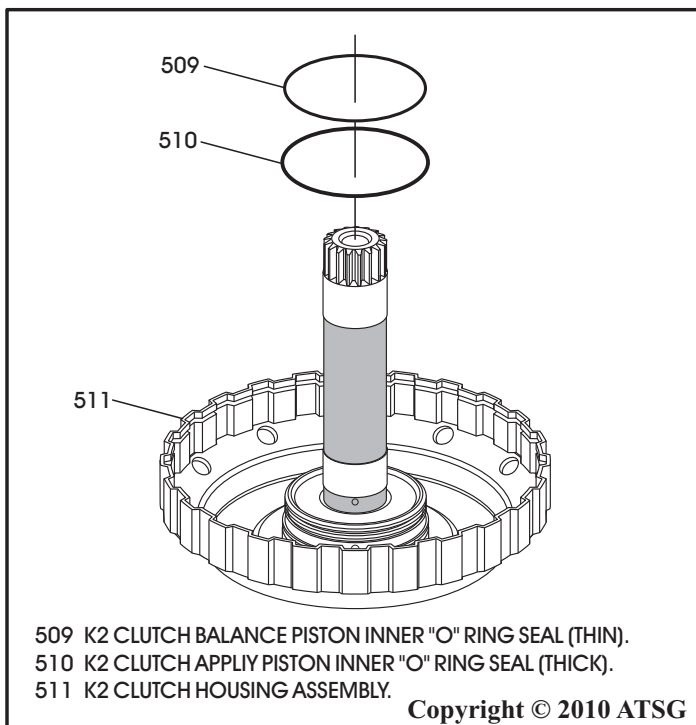

Figure 121
4. Install the K2 apply piston inner "O" ring seal in the bottom groove of housing, as shown in Figure 121.
5. Install the K2 balance piston inner "O" ring seal in the center groove of housing, as shown in Figure 121.